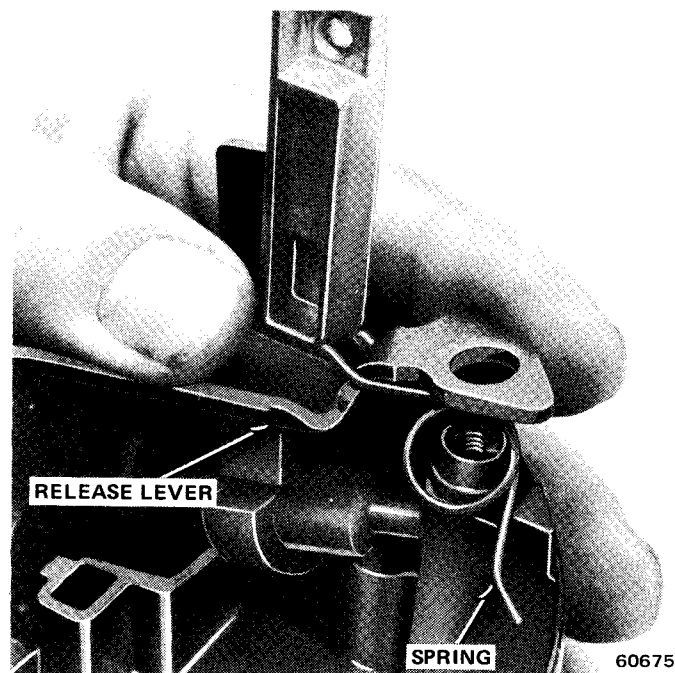
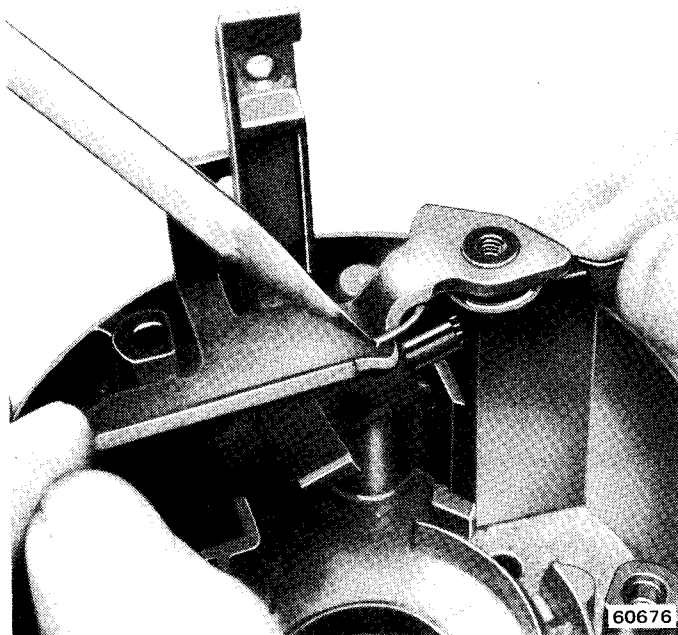

Fig. 11-21 Installing Release Lever and Spring
Fig. 11-22 Positioning Release Lever Spring
(5) Install release lever return spring over post in housing (fig. 11-21). Insert release lever finger in slot in lock rack and position hole in lever over threaded hole in housing post (fig. 11-22). Be sure inner end of spring contacts release lever as shown in figure 11-22.